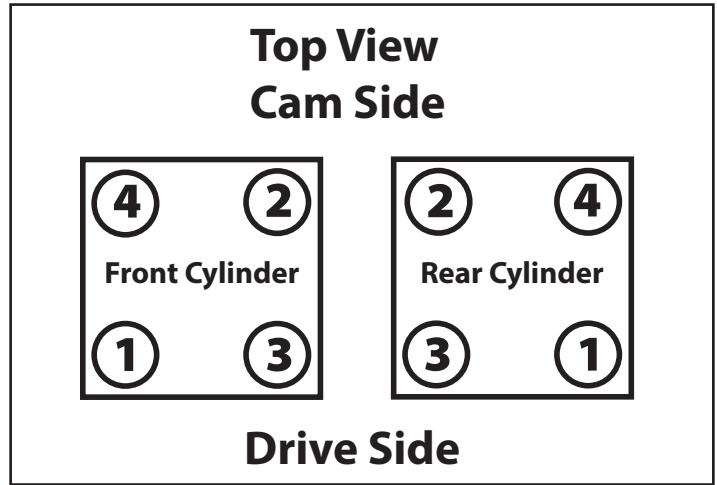

Figure 1
- a. Tighten each bolt finger tight using the sequence in **Figure 1**.
- f. Tighten each bolt finger tight using the sequence in **Figure 1**.